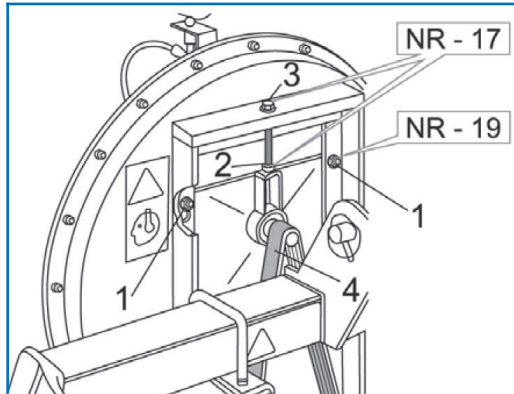

Figure 38
The impeller (Fig 38) creates a vacuum inside the distributors, so that the seeds are aspirated onto the holes in the plate. The tensioning and the good condition of the belt (4, Fig 38) have a vital importance for the operation of the impeller and the success of the sowing. The belt is correctly tensioned when it does not yield under the pressure of a hand.
- Loosen the screws (Fig.38 no:1)
- Loosen the nut (Fig.38 no:2)
- Tension the belt by tightening the screws (Fig.38 no:3)